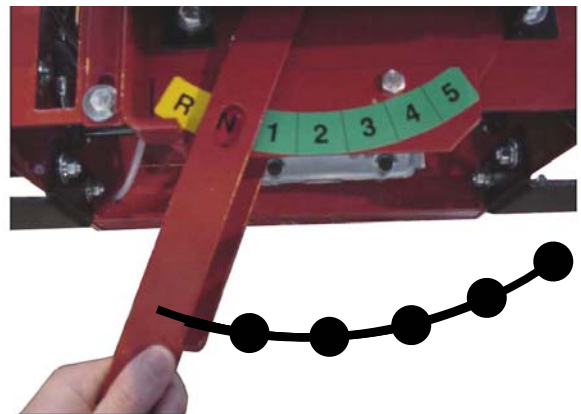

FIGURE 3.7
1. **To engage transmission in a forward gear**, move the transmission shift lever from the neutral ('N') position into the desired gear ('1' – '5'). See Figure 3.7.